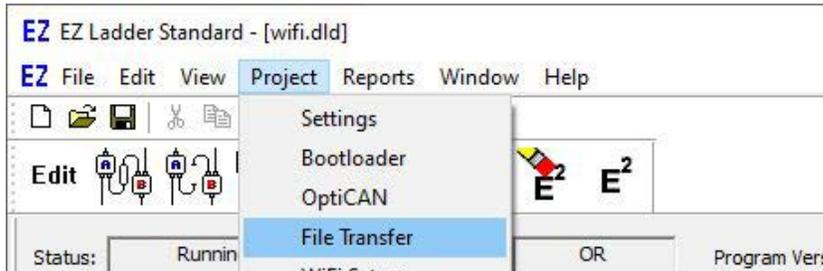

Figure 20-4
- From the menu at the top, select **Project** then select **File Transfer**. Refer to Figure 20-4.